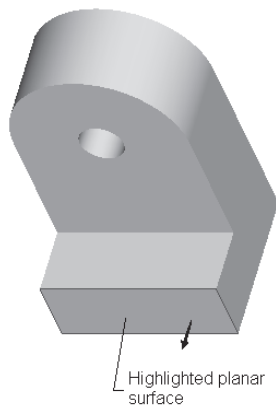

Figure 4-51 Planar surface
3. Using the left mouse button, select the front planar surface of the second feature highlighted in Figure 4-51. The boundary of the selected front planar surface is highlighted red in color.